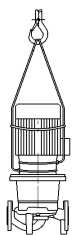

Fig. 5: Attaching the transport ropes
- Transport eyes can be screwed into the threaded holes provided on the motor for that purpose. These eyes must only be used for guiding while bearing the load (fig. 5).